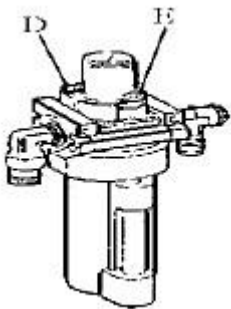

Figure 19
- Check oil level in oil fog maker, please be filled with SAE30 oil if needed. Unscrew with hex wrench (E). Based on connection of compressed air, first to tread jaws open and close pedal or turntable rotation pedal 5-6 times, and then check whether oil in oil fog maker drops down a drip of oil. For continuous operation, tread twice every time, drop down a drip of oil, otherwise adjust the screw (D) that controlled oil enter with minus screwdriver (figure 19 below).